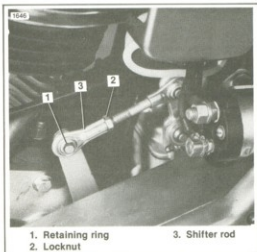

Figure 7-2. Shifter Rod — FX Models
1. See Figure 7-2. Remove the retaining ring (1) and pull shift rod off the clevis pin.
2. Loosen the locknut (2) and adjust the rod (3) so pedal travels its full limit without interference while completing full gear engagement.